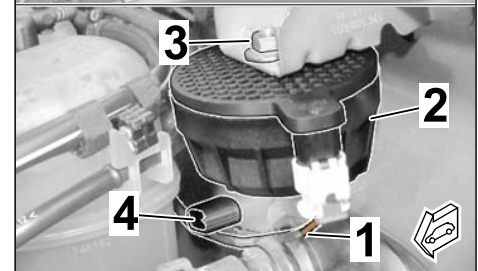

Figure 20
2.3 Fit engine noise pulse sender ( $\Rightarrow$  Figure 20)
2.3.1 Route branch with connector (2-pin) to the engine noise pulse sender holder (⇒ *Figure 20-top*).
- 3 (2) – Hexagon nut, M6
- 4 (3) – Cable clip
Secure engine noise pulse sender, facing downwards, in the plenum panel holder using M6 hexagon nut (1 x) (⇒ *Figure 20*)